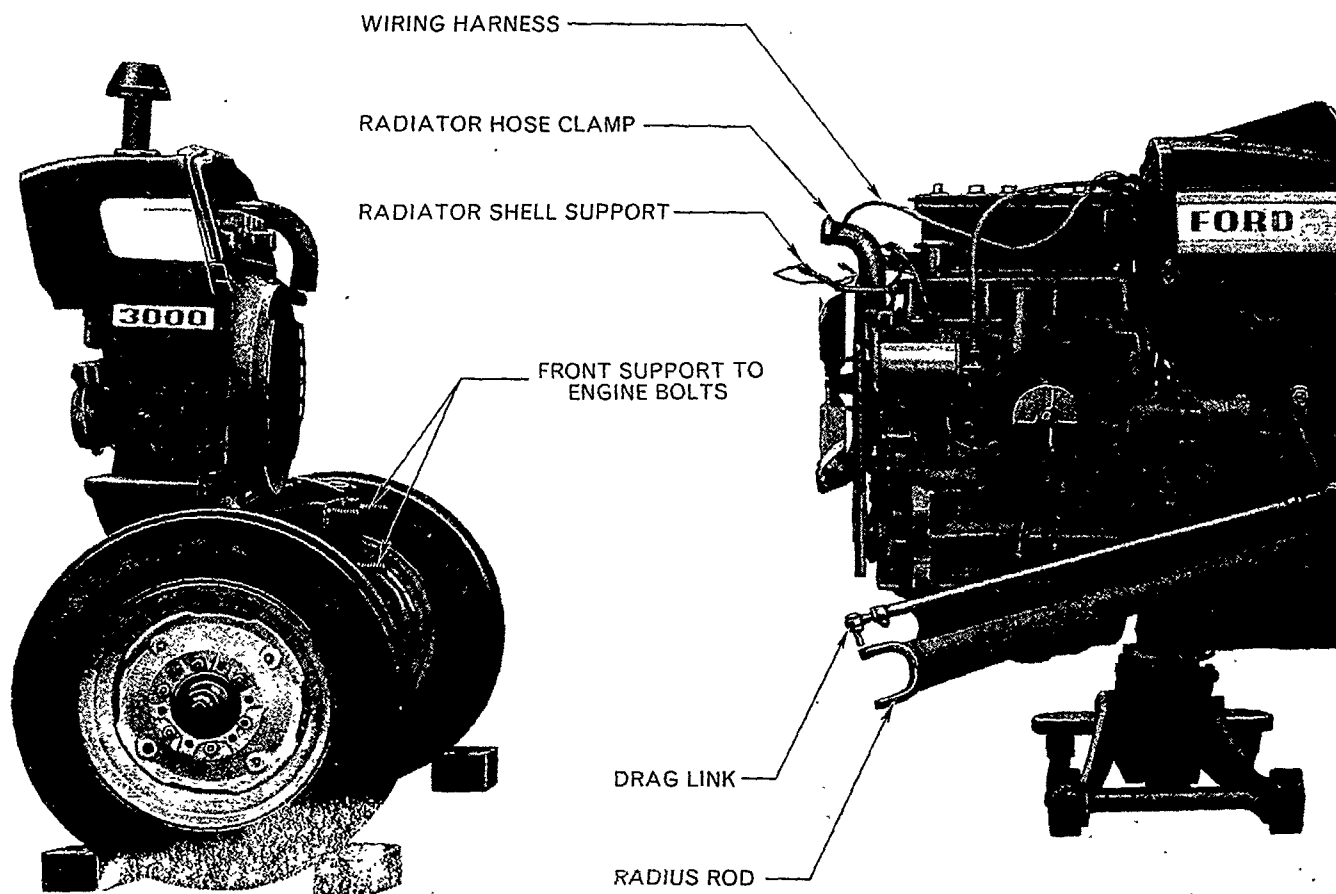

Figure 4
8. Loosen the radiator hose clamps and disconnect the hoses from the radiator. Loosen the air cleaner hose clamps, Figure 4.